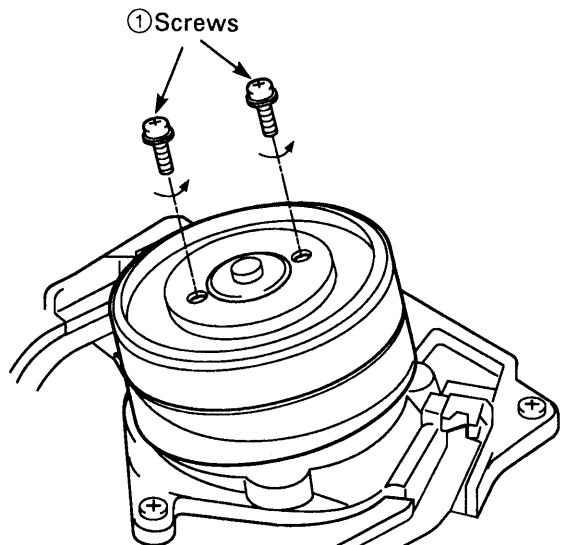

Fig.3-5-1
(UPPER DRUM) (See Figs. 3-5-1, 3-5-2, 3-5-3, 3-5-4)
- 1) Remove the two screws ① (See Fig.3-5-1).